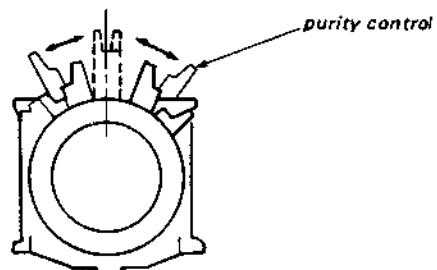
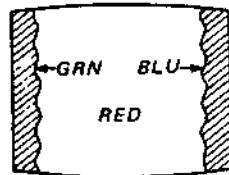

Fig. 3-1.
Fig. 3-2.
3. Loosen the deflection yoke mounting screw, and set the purity control to the center as shown in Fig. 3-1.
4. Set BKG VR ④ to maximum and set ⑧ and ⑨ to minimum.
5. Move the deflection yoke back, and adjust the purity control so that ④ is in the center and ⑧ and ⑨ are at the sides, evenly. (Fig. 3-2.)
7. Substitute ⑧, then ⑨ for ④ in step 4 and check landing.
8. Rotate ④, ⑧ and ⑨ once each and check landing.